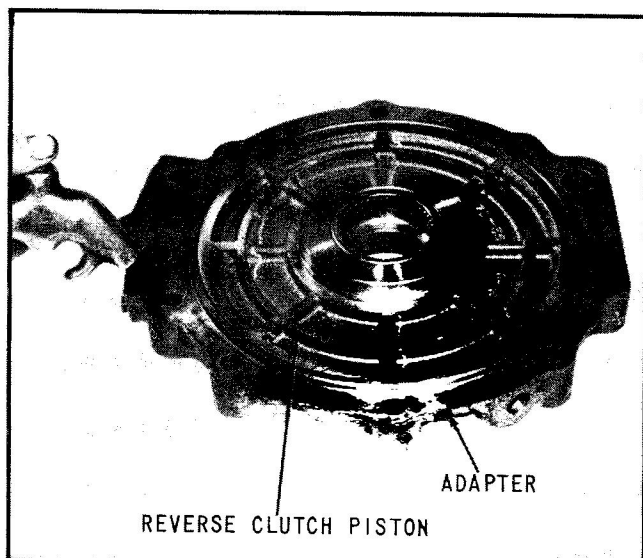

Fig. 15 Blowing Air into Clutch Hole
6. Blow air into clutch feed hole to force clutch piston from adapter, (Fig. 15). Remove and discard adapter gasket and clutch sealing rings.